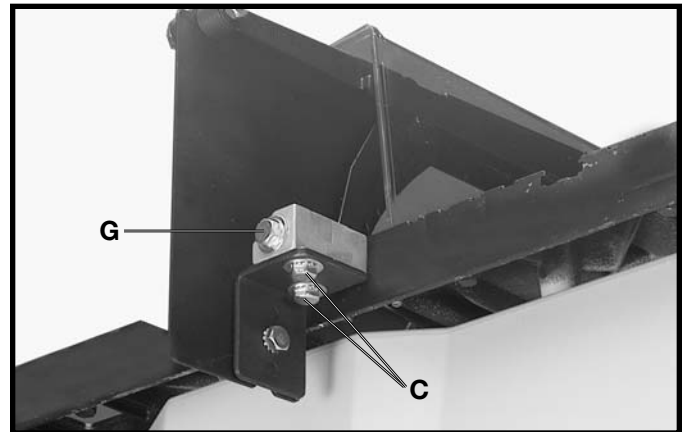

Fig. 12B
11. When you are certain the splitter is properly aligned with the saw blade, tighten the two screws (C) Fig. 12B, that fasten the splitter support bracket to the splitter bracket and tighten screw (G) that fastens the splitter bracket to the pivot rod.